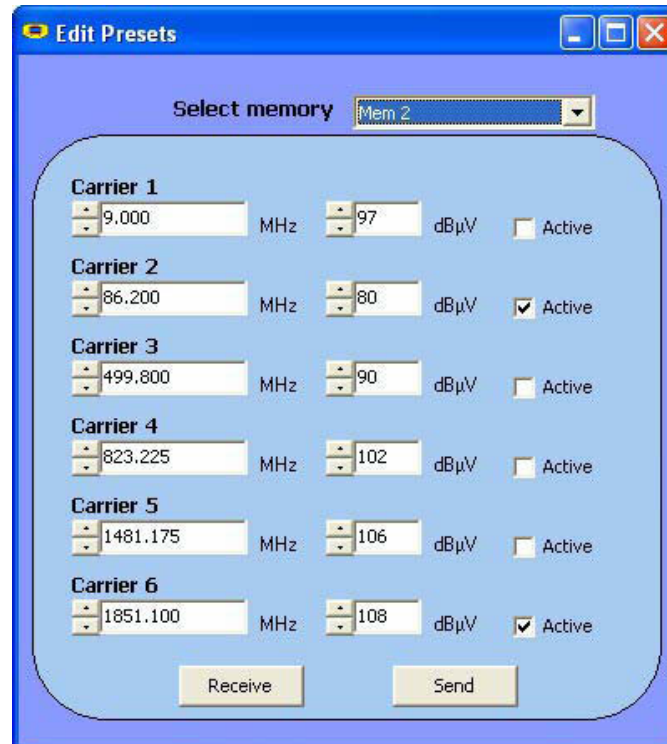

Figure 12.- PRESETS Edition.
- Edit Presets:** It allows you to set the parameters of the six pilot signals (See Figure 12.) and to save them grouped in one of the 8 memories of the instrument.